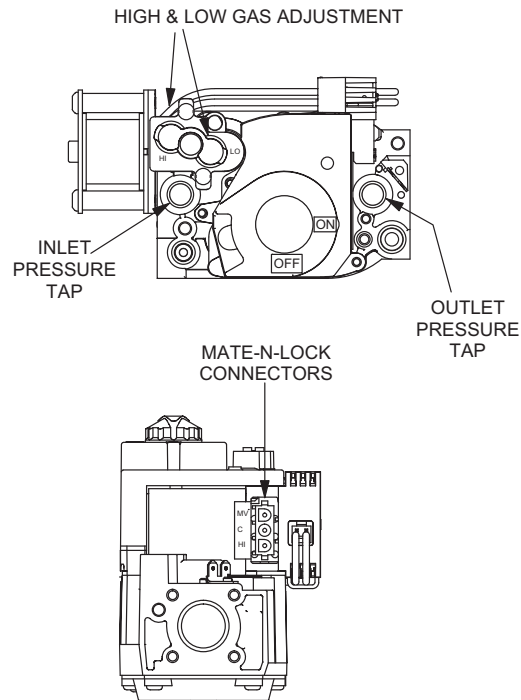

FIGURE 29 : TYPICAL GAS VALVE
4. Turn gas valve clockwise to "OFF" position (See Figure 29).
This gas furnace has two heat stages. Therefore, the gas valve has two adjustment screws located under a plastic protective cover. The second stage (100% input) adjustment screw is adjacent to the "HI" marking on the valve and the first stage (60% input) adjustment screw is located adjacent to the "LO" marking on the valve (See Figure 29).